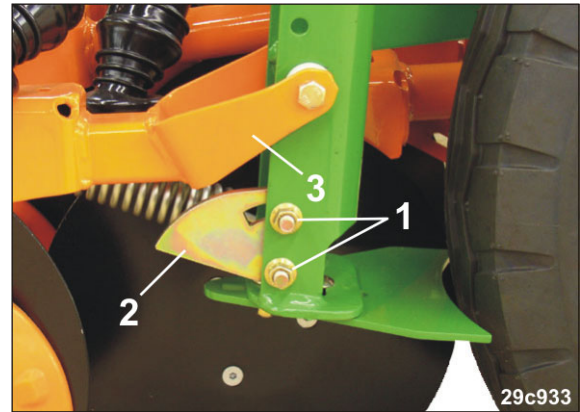

Fig. 178
2. Release the nuts (Fig. 178/1).
3. Set the seed placement depth of the outside coulter (Fig. 178/3) by turning the cam disc (Fig. 178/2).